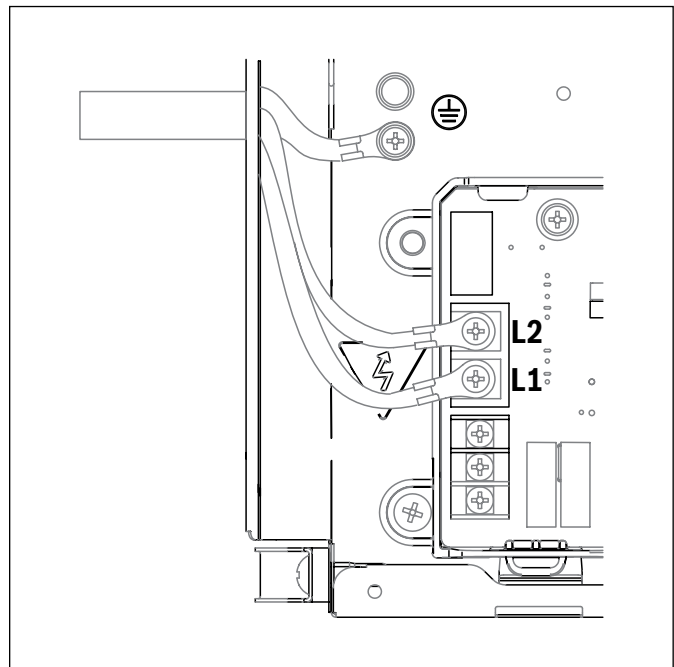

Figure 64
- Secure the power cables with the clamp shown in Figure 64 below.